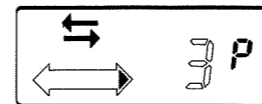

Fig. 1-3i
- Press key ②⑦ "NEXT" or ②⑧ "PREVIOUS". This automatically sets the recorder for programmed playback, i.e. where necessary it automatically rapidly rewinds to the left and playback with the tape running to the right is selected. Programming can already be started while the tape is winding back.
- By pressing key ②⑦ "NEXT" or ②⑧ "PREVIOUS" you select on the display the track numbers from "1" to "20". These are the track numbers which should be familiar to you from the list of contents of the side which is to be played back. Let us assume that you want to programme tracks "3", "5", "7" and "15".
- Keep pressing key ②⑦ "NEXT" or ②⑧ "PREVIOUS" until the display is as shown in Fig. 1-3i. The "-" sign after the "3" flashes to indicate that track "3" has not yet been programmed.